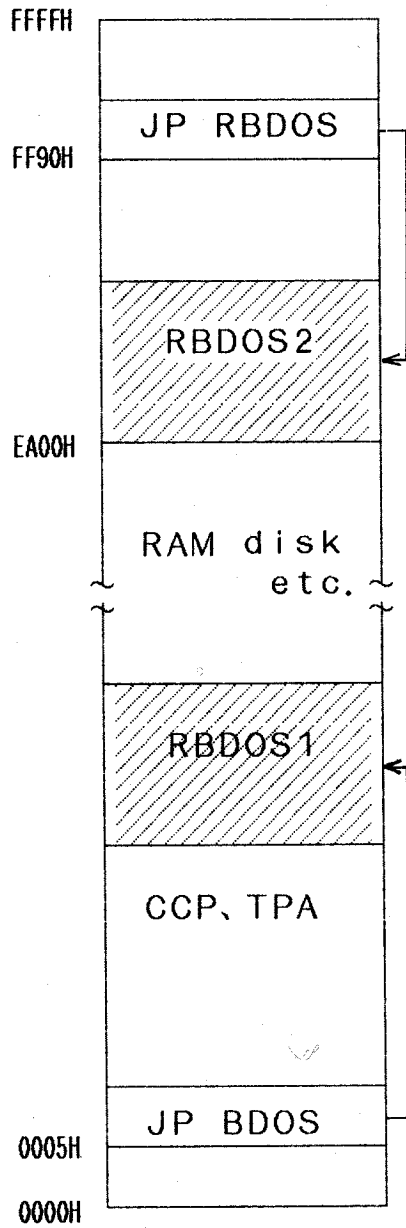

Figure 4.2.3 Relationship between RBDOS1 and RBDOS2
- 5) Figure 4.2.3 shows the relationship between RBDOS1 and RBDOS2.